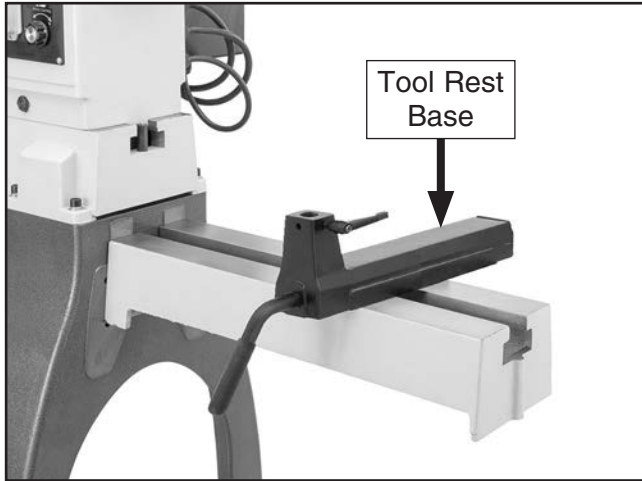
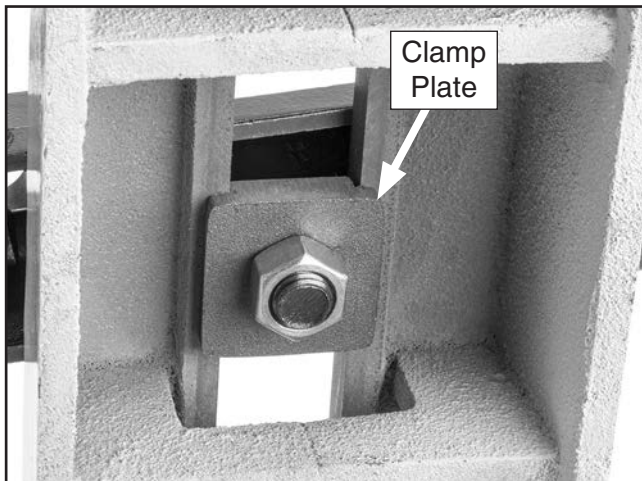

Figure 3. Tool rest base on bed extension.
Figure 4. Clamp plate aligned with extension bed.
3. Slide tool rest base onto bed extension (see **Figure 3**). Clamp plate must be aligned with extension bed to sit flush (see **Figure 4**).